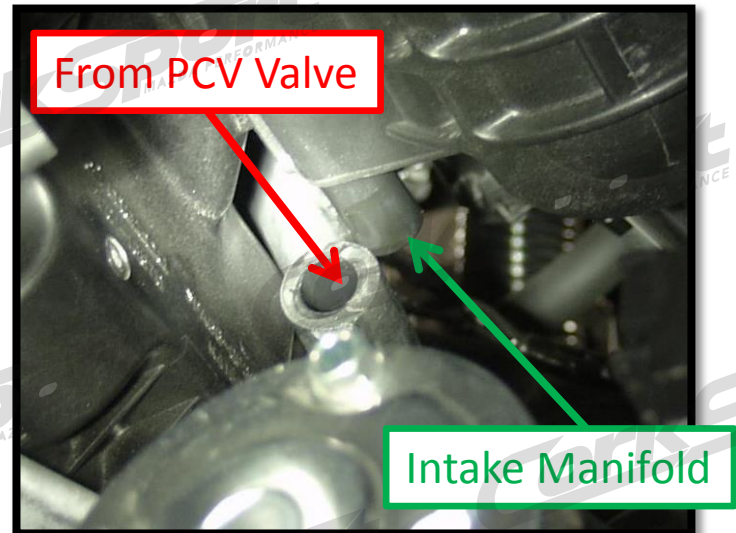

Figure 3b
- b) Pull the hose off the intake manifold as shown (Figure 3b).
b) Pull the hose off the intake manifold as shown (Figure 3b).